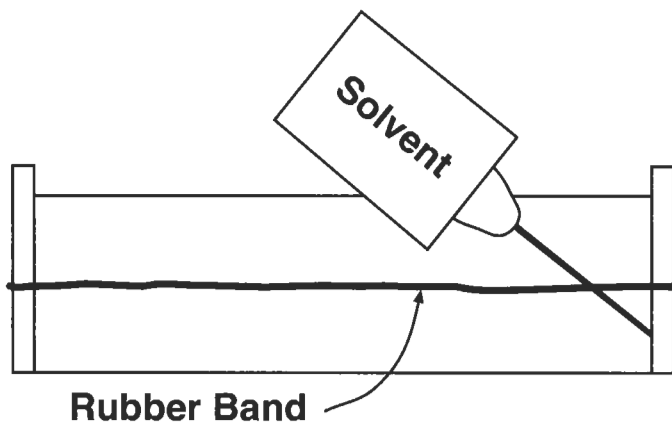

Figure 3 - Cracker holders assembly detail.
1. Cracker holders: Turn both the square and round holders upside down. Take paper off the end pieces and place the ends against the holders. Place a rubber band around all three **components**. Apply bonding agent only against edges that are in contact. (See figure 3.)